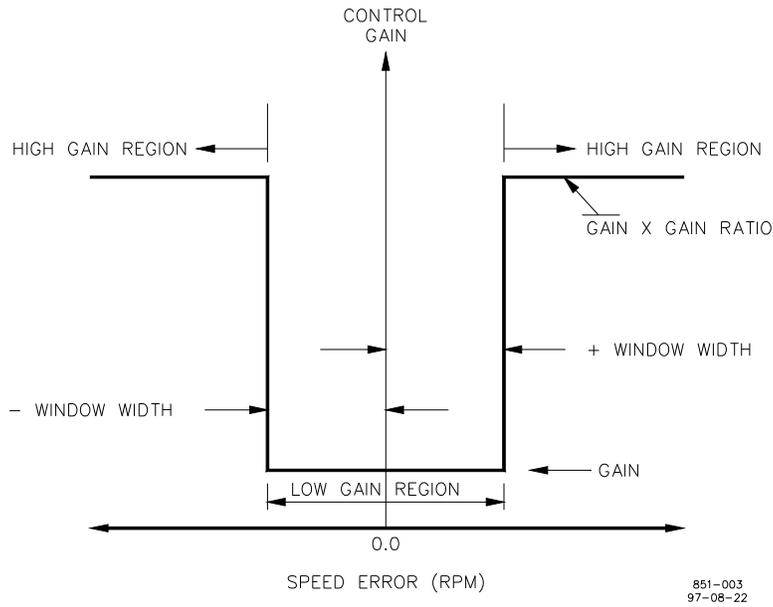

Figure 3-2. Control Gain as a Function of Speed Error
The following descriptions of each menu item apply to either set. Also see Figures 3-2, 3-3, and 3-4.
4. **GAIN RATIO** is the ratio of the Gain setting at steady state to the Gain setting during transient conditions. The Gain Ratio operates in conjunction with the Window Width and Gain adjustments by multiplying the Gain set point by the Gain Ratio when the speed error is greater than the Window Width. This makes the control dynamics fast enough to minimize engine-speed overshoot on start-up and to reduce the magnitude of speed error when loads are changing. This allows a lower gain at steady state for better stability and reduced steady-state actuator linkage movement. (See Figure 3-2.)
5. **WINDOW WIDTH** is the magnitude (in rpm) of a compensated speed error (E_c) at which the control automatically switches to fast response. The control uses the absolute value of compensated speed error (E_c) to make this switch. The absolute value is the difference between the speed reference (N_r) and the compensated speed (N_c). A Window Width too narrow will result in cycling that always factors in the Gain Ratio. (See Figure 3-2.)
13. **GAIN RATIO** is the ratio of the Gain setting at steady state to the Gain setting during transient conditions. The Gain Ratio operates in conjunction with the Window Width and Gain adjustments by multiplying the Gain setpoint by the Gain Ratio when the speed error is greater than the Window Width. This makes the control dynamics fast enough to minimize engine speed overshoot on start-up and to reduce the magnitude of speed errors when loads are changing. This allows a lower gain at steady state for better stability and reduced steady-state actuator linkage movement (see Figure 3-2).
14. **WINDOW WIDTH** is the magnitude (in rpm) of a compensated speed error (E_c) at which the control automatically switches to fast response. The control uses the absolute value of the compensated speed error (E_c) to make this switch. The absolute value is the difference between the speed reference (N_r) and the compensated speed (N_c). A Window Width too narrow will result in cycling that always factors in the Gain Ratio (see Figure 3-2).